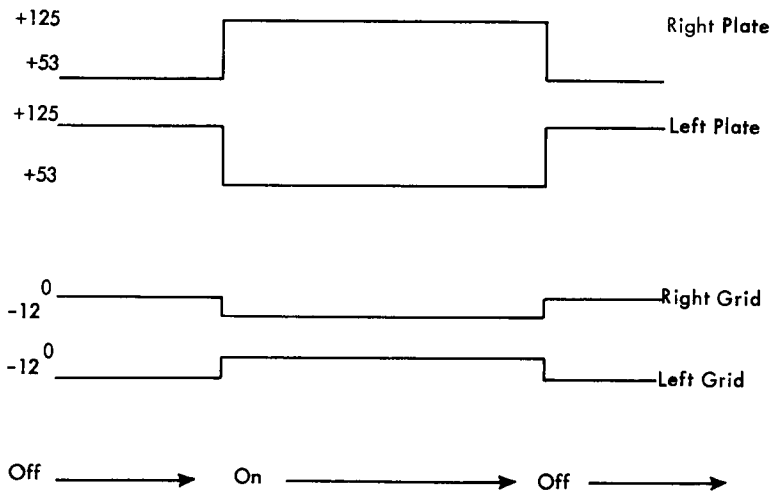

FIGURE A10. HIGH SPEED TRIGGER (T)
A trigger is said to be on when its left tube is conducting. Therefore, the left side is called the "on-side," and the right side is the "off-side." In the "on" state, the left grid is up, the right plate is up, the right grid is down, and the left plate is down (Figure A10). If a trigger is used for storing binary information, it is storing a one when on and a zero when off.
Because either side of a trigger can go into conduction when power is first applied, a provision must be made to establish a specific status. The trigger may be reset with the output of the reset cathode follower (K_R) applied at the desired reset point. The reset cathode follower is usually preceded by either the pulse forming inverter (I_{PF}) or a single shot (SS). The reset point is the plate of the -12v clamp diode. The reset cathode follower provides -12v as a clamp voltage and changes to zero volts for reset. Bringing the plate of the clamp diode to ground forces a non-conducting grid up; that side of the trigger goes into conduction. The reset pulse lasts long enough to insure that the regenerative action is complete. The notation of reset is placed in the title section of the logic block (Figure A10). The notation on the left indicates "reset on." and on the right indicates "reset off." A trigger may have several resets, but only one takes place at a time. The origin of the reset is marked on the Systems page.
A manual method of flipping helps to test the trigger circuit. The points in Figure A10 marked "manual on" or "manual off" are wired to pins on the panel. If a trigger is on and the manual-off pin on the panel is touched by a tweaking probe, the trigger is flipped off. The tweaking probe is merely a line connected through a by-passed, high-impedance resistor to ground. The ground connection pulls the tweak points (manual points) up toward ground, thus providing a positive shift at the grid to flip the trigger. Tweaking the manual-on point turns the trigger on if it was initially off.